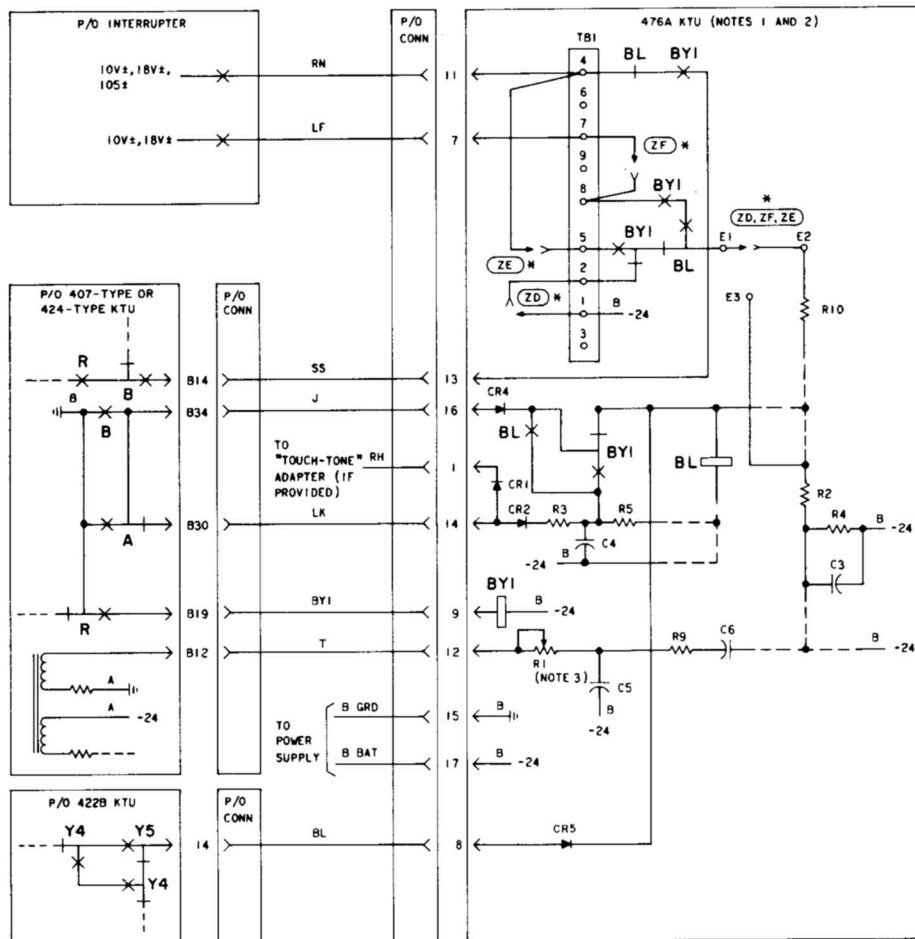

Fig. 19—Condensed Functional Schematic of 476A KTU (Dial Tone, Busy Tone, and Audible Ringback Tone)
2.17 The 476A KTU (Fig. 19) is a 4-inch, 20-contact unit that provides a variable rate multivibrator to produce dial tone, station busy tone, or audible ringback tone for the dial selective intercom line circuit in modular panel installations. To provide busy tone and audible ringback tone, the multivibrator is controlled by the RN and lamp flash leads. For all tone signals, the output of the multivibrator is